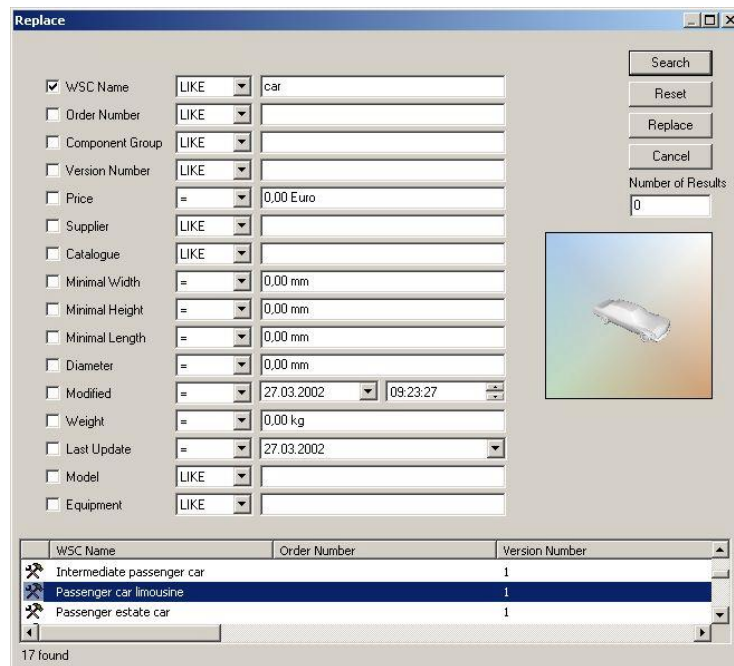

Figure 87: Finder: Replace System Item
- 2) The Finder with the Replace function opens. Once you have found the objects (system item) you are looking for, select the required object. Please refer to the Figure 87.
- 3) Confirm your selection with **Replace**. Please refer to the Figure 87.